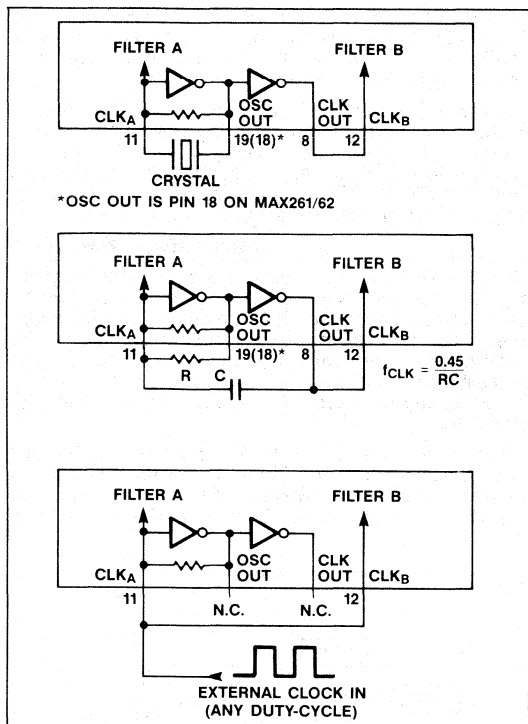

Figure 4. Clock Input Connections
The clock circuitry of the MAX260/61/62 can operate with a crystal, resistor-capacitor (RC) network, or an external clock generator as shown in Figure 4. If an RC oscillator is used, the clock rate,  $f_{CLK}$ , nominally equals  $0.45/RC$ .